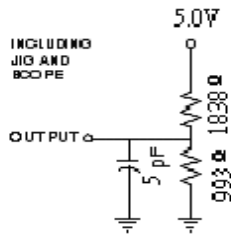

FIGURE 1B
5. Transition is measured $\pm 500\text{mV}$ from steady state with $CL = 5\text{pF}$ as shown in Figure 1B. The parameter is guaranteed but not 100% tested.
10. Transition is measured $\pm 500mV$ from steady state with $C_L = 5pF$ as shown in Figure 1B. The parameter is guaranteed but not 100% tested.